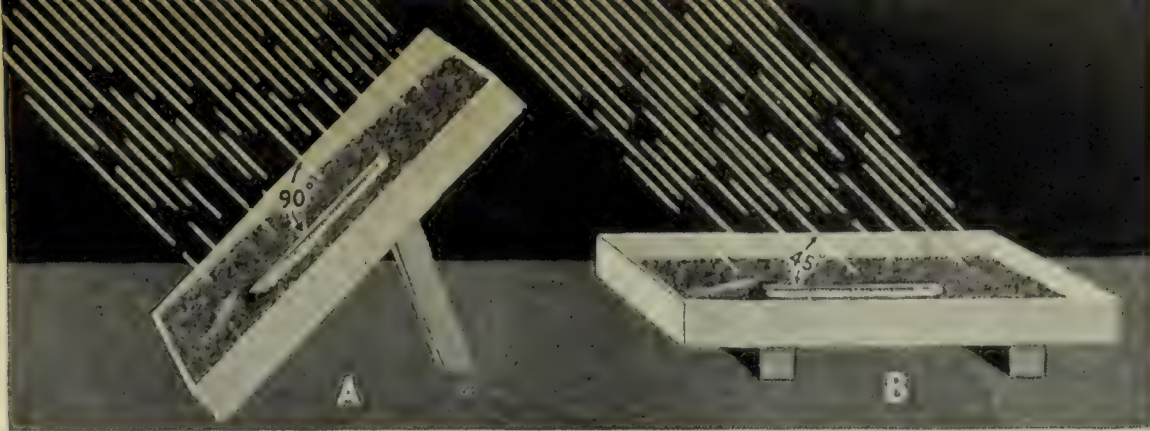

FIG. 309. Apparatus for Experiment 73
*Experiment 73.* HOW DOES THE ANGLE OF THE SUN'S RAYS AFFECT THE AMOUNT OF HEAT THE EARTH GETS? Fill two cardboard boxes with sand or dry soil as shown in Figure 309. Lay thermometers on the boxes, with the bulbs buried in the sand.
Place one box, as shown in A of the figure, so that the sun's rays will fall upon it vertically, that is, at an angle of ninety degrees. Arrange the other box with sand and thermometer and place it on two small blocks, as shown in B of Figure 309, so that the sun's rays will fall upon the